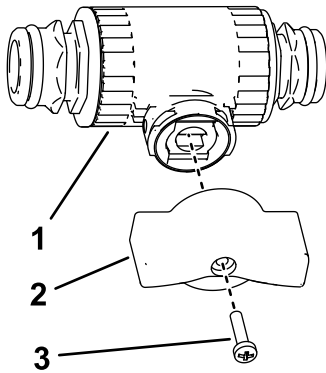

**Figure 17**
1. Install the control-valve bracket onto the valve-mount frame using 2 flange-head bolts (1/4 x 5/8 inch) as shown in Figure 17.